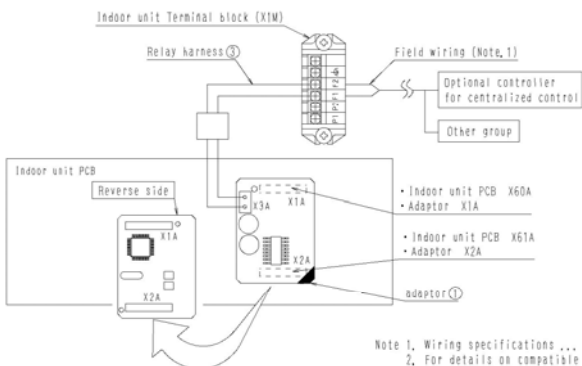

Fig. 2
- Insert the Relay harness ③ into the connector of the Adaptor ① (Fig. 2)
- Connect the Relay harness ③ with the terminals F1 and F2 on the terminal block(X1M), (Fig. 2)
- Connect the wires from the terminals F1 and F2 to the centralized control, (Fig. 2)